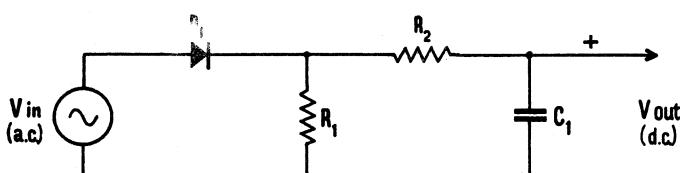

Fig. 1 Average Detector.
**Average Voltage Detectors** The basic form of an average-voltage detector is shown in Fig. 1. Diode  $D_1$  conducts during positive part of the cycle only, and providing the value of  $R_1$  is high compared with the forward resistance of the diode, the voltage waveform appearing across  $R_1$  must be a facsimile of the positive part of the input waveform.